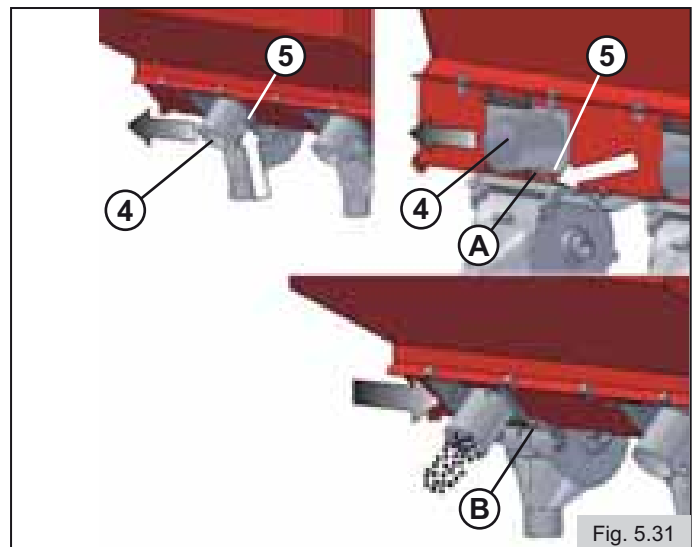

Fig. 5.31
- Press plug holder 5 and displace plug 4 from position A to position B (Fig.5.31).